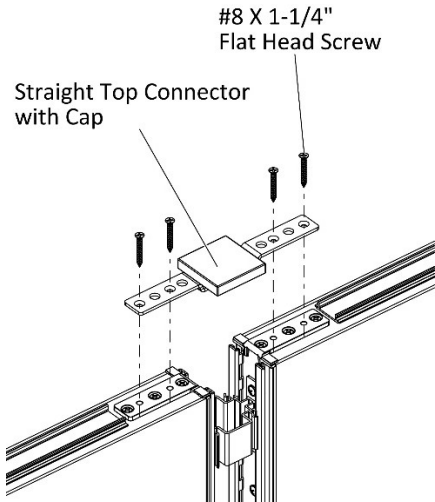

Figure 9
- 16.** Securely fasten straight top connector with cap into the panels with four #8 X 1-1/4" Flat Head Screws, (Figure 9).